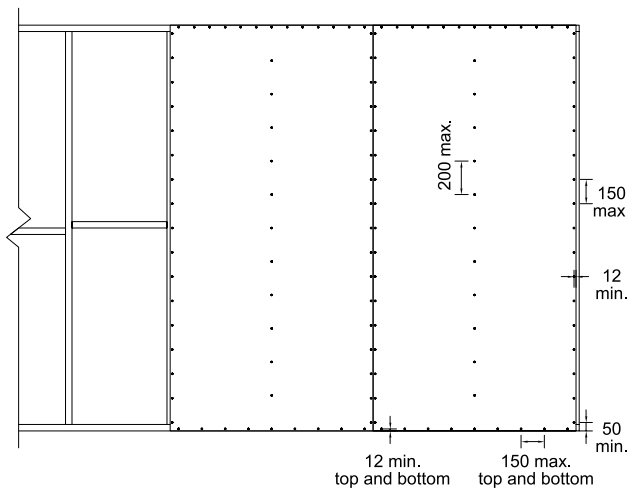
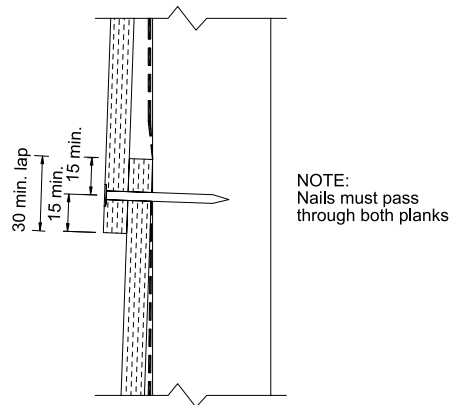
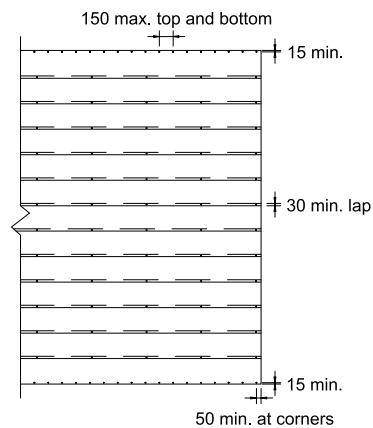

Figure 3: Nailing Detail for HardiFlex™ Sheets, PineRidge™ Lining or PanelClad™ Sheets
Figure 6: Nailing Detail for HardiPlank™ or PrimeLine™ Weatherboards
Figure 7: Nailing Spacing Detail for JHFC Planks or Weatherboards
| 6mm JHFC sheets, single-sided, fixed vertically, (see Figure 3, 4 or 5b), or horizontally with set joints (see Figure 5a) | 2.8 |
| 6mm JHFC sheets double-sided, fixed vertically (see Figure 3, 4 or 5b) | 4.0 |
| 6mm JHFC sheets, fixed vertically (see Figure 3, 4 or 5b) or horizontally with joints set (see Figure 5a) + JHFC planks or weatherboards on other side (see Figures 6 & 7) | 3.2 |
| JHFC planks or weatherboards on one side only (see Figure 6 & 7) | 2.0 |
Non-Cyclonic Areas: Sheets fixed vertically in accordance with Figure 3, Section 5 and Clause 2.3.7 of this manual will achieve the bracing capacities stated in Table 1.
Cyclonic Areas: Sheets fixed vertically along with anchor rods in accordance with Figure 3, Section 5 and Clause 3.3 of this manual will achieve the values stated in Table 4.
Non-Cyclonic Areas: The bracing capacity stated in Table 1 applies to all JHFC planks and weatherboards, when fixed in accordance with Figure 6, Section 5 and Clause 2.3.7 of this manual.
Cyclonic Areas: The bracing capacity stated in Table 4 applies to all JHFC planks and weatherboards, when fixed along with anchor rods in accordance with Figure 6, Section 5 and Clause 3.3 of this manual.
In both the above cases, JHFC planks and weatherboards must be fixed at 150mm maximum centres along top and bottom plates as shown in Figure 7.
| HardiBrace™ Sheet Bracing fixed with standard nail pattern (see Figure 1) + 6mm JHFC sheets other side, fixed vertically (see Figure 3, 4 or 5b), or horizontally with set joints (see Figure 5a) | 10.0 |
| 6mm JHFC sheets, single-sided, fixed vertically (see Figure 3, 4 or 5b) or horizontally with set joints (see Figure 5a) | 5.3 |
| 6mm JHFC sheets, double-sided, fixed vertically (see Figure 3, 4 or 5b) or horizontally with set joints (see Figure 5a) | 7.3 |
| JHFC planks or weatherboards (see Figure 6 and 7) + 6mm JHFC sheets other side, fixed vertically (see Figure 3, 4 or 5b) or horizontally with set joints (see Figure 5a) | 6.6 |
| JHFC planks or weatherboards, single-sided (see Figure 6 and Figure 7) | 2.4 |
2. Bracing capacity can only be claimed for JHFC plank or weatherboard cladding if screws pass through both planks. See Figure 6.
| 7.5mm JHFC planks or weatherboards | Single-sided | 600 | See Note 2 and Figures 6 & 7 | 2.1 | 2.2 | - | - |
| | | 450 | See Note 2 and Figures 6 & 7 | - | - | - | 2.4 |
| | | 300 | See Note 2 and Figures 6 & 7 | - | - | - | 3.6 |
| | Double-sided, internal lining 6mm JHFC sheets (see Note 4), fixed vertically (joints not set, see Note 5) or horizontally (joints tape set, see Note 6) | 600 | See Note 2 and Figures 6 & 7 For 6mm JHFC sheets: 200/200/200 | 3.9 | 4.0 | - | - |
| | | 450 | See Note 2 and Figures 6 & 7 For 6mm JHFC sheets: 200/200/200 | - | - | - | 6.7 |
| | | 300 | See Note 2 and Figures 6 & 7 For 6mm JHFC sheets: 200/200/200 | - | - | - | 11.0 |